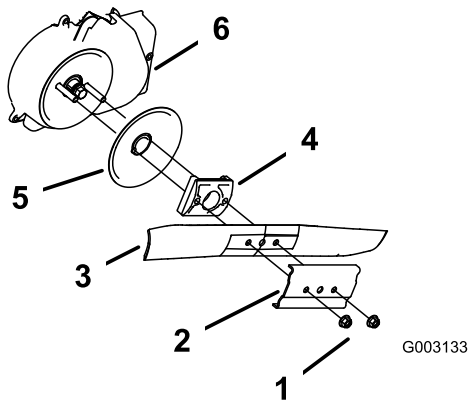

Figure 47
3. Remove the 2 blade nuts and the stiffener (Figure 47).
4. Remove the blade (Figure 47).
5. Install the new blade (Figure 47).